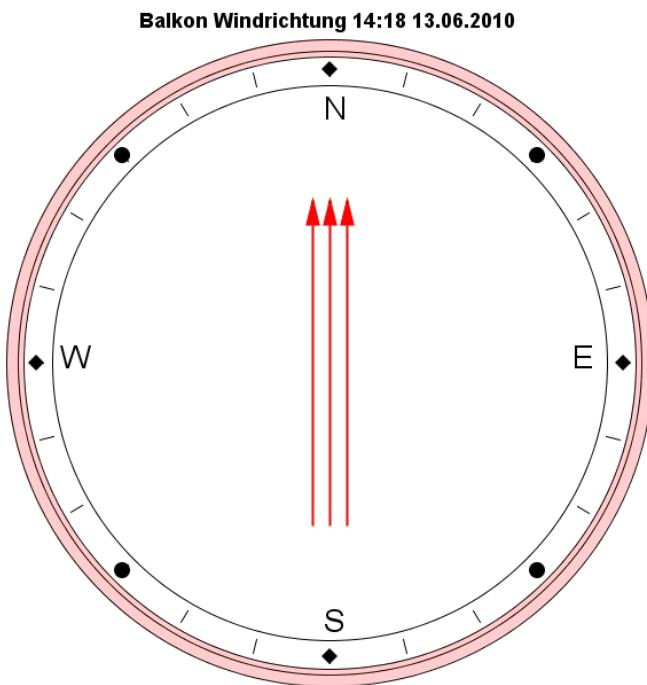

Figure 4.2: Current wind direction plot
**Current** represents the newest values for the plot. Currently this is only implemented for the wind direction. Figure 4.2 provides an example.